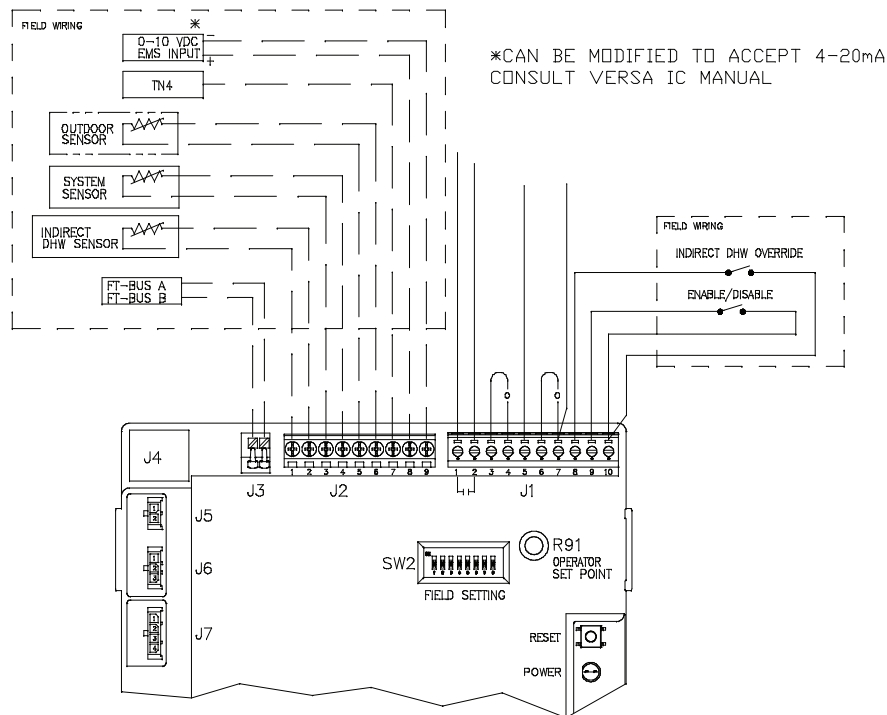

Fig. 20: XPak FT Single Boiler Control
Connect the Enable/Disable terminals to the PIM (shown in Fig. 20). Alternately, any dry contact closure (including a remote thermostat) across these terminals will enable the XPak FT unit to run. Caution should be used to ensure neither of the terminals becomes connected to ground.
2. To enable this remote control function, set dip switch 5 to the UP position on the PIM. Dip switch 5 Toggles between an EMS (UP) signal or a demand signal from the VERSA (DOWN). Dip switch 2 on the PIM toggles between a Direct Drive (UP) input and a Target Temperature (DOWN) setpoint.
4. Connect an Energy Management system or other auxiliary control signal to the terminals marked 0-10V (+/-) on the PIM (see Fig. 20). Caution should be used to ensure that the +0-10V connection does not create a short to ground.
3. Connect the system supply sensor to terminals 3 and 4 on the J2 connector located on the Master PIM (See Fig. 20).
4. Connect the Outdoor sensor (if used) to terminals 5 and 6 on the J2 connector located on the Master PIM (See Fig. 20).
5. Connect the Enable/Disable wiring to terminals 9 and 10 on the J1 connector located on the Master PIM (See Fig. 20). This connection must be provided through dry contacts closure.